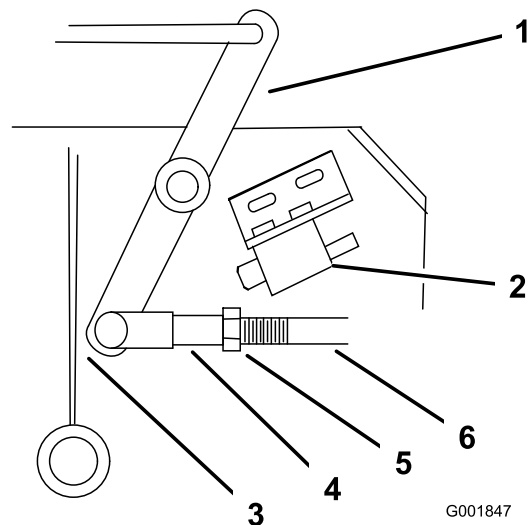

Figure 56
4. Adjust the linkage length to where the lower end of the bellcrank just clears the axle support gusset (Figure 56).
9. Loosen the nut against the yoke (Figure 56).